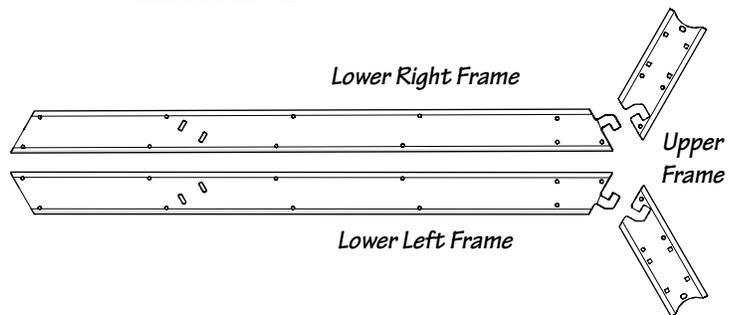

Fig. 2-1
- Locate the two upper and lower frames from the kit. Lay the frames on a hard surface, following the orientation shown in Fig. 2-1.